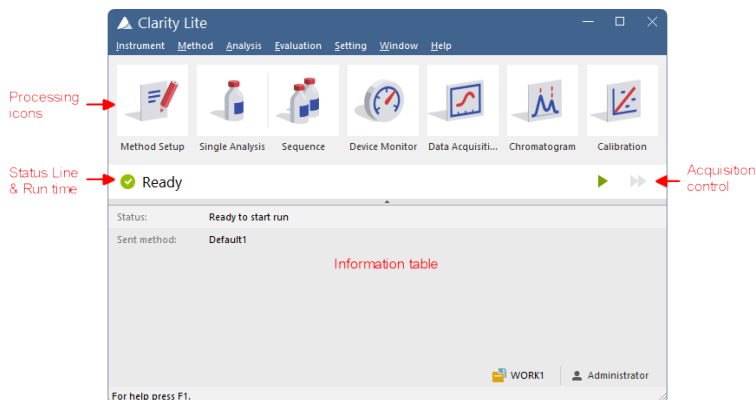

Fig. 7: Clarity Lite window
- **Fig. 7** on pg. 12. shows the most important icons in the *Clarity Lite* window. During the tour, we will review all windows opened by these icons.
- For the demonstration purposes, you may set the values in the fields as shown in **Fig. 8** on pg. 13. as typical analysis settings. Once this is performed, your Clarity Lite window will be the same as shown in **Fig. 7** on pg. 12.
- After the parameter setup, you can run the analysis by clicking the **Run** button ⑦. The **Single Analysis** dialog will close now. If you open it again, you will see three additional buttons (**Stop**, **Abort**, **Snapshot**) that will allow you to stop or abort the analysis or take snapshots (see the chapter "**Data Acquisition window**" on pg. 14.).
- In the **Clarity Lite** window look at the **Status line** (see **Fig. 7** on pg. 12.). The acquisition is now signaled by the **RUNNING** state and the actual run time shown there.
- To see the data acquisition in process and control it if necessary, click the **Data Acquisition** ④ icon (see **Fig. 7** on pg. 12.) to enter the **Data Acquisition** window.
- Depending on your station's configuration, one or more signals may be displayed. The number of detectors (signals) and their names can be seen in the upper right corner of the graph ①.